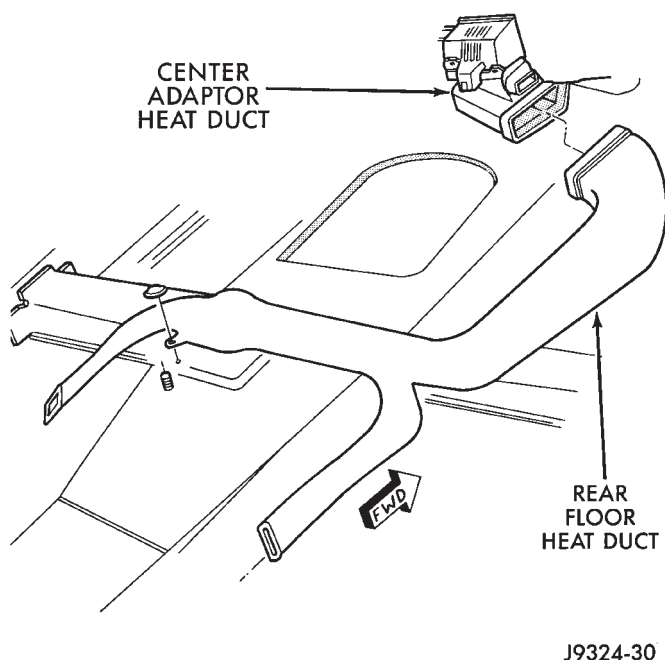

Fig. 33 Rear Floor Heat Duct
(1) Remove the center console (refer to Group 23, Body).
(2) Remove the passenger seat (refer to Group 23, Body).
(3) Remove the passenger side door trim (refer to Group 23, Body).
(4) Roll carpet back.
(5) Remove the stud nut (Fig. 33).
(6) Disconnect the rear floor heat duct from the center adaptor heat duct (Fig. 33).